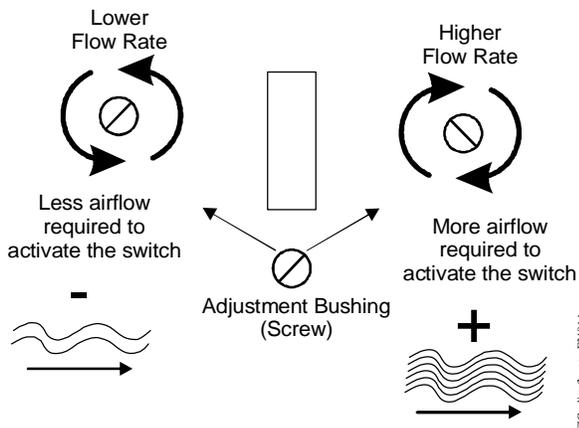

Figure 8: Flow Rate Adjustment
2. Adjust the switch's flow rate (Figure 8):
Turn the adjustment screw **clockwise** to **raise** the flow rate required to activate the switch. See Figure 8.